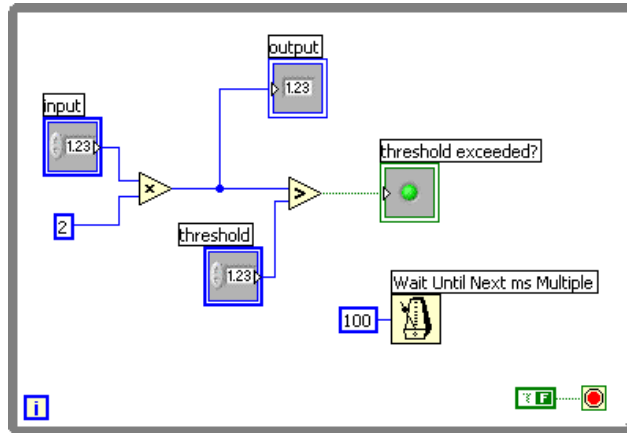

Figure 11. Creating the Block Diagram
3. Create the block diagram as shown in Figure 11.